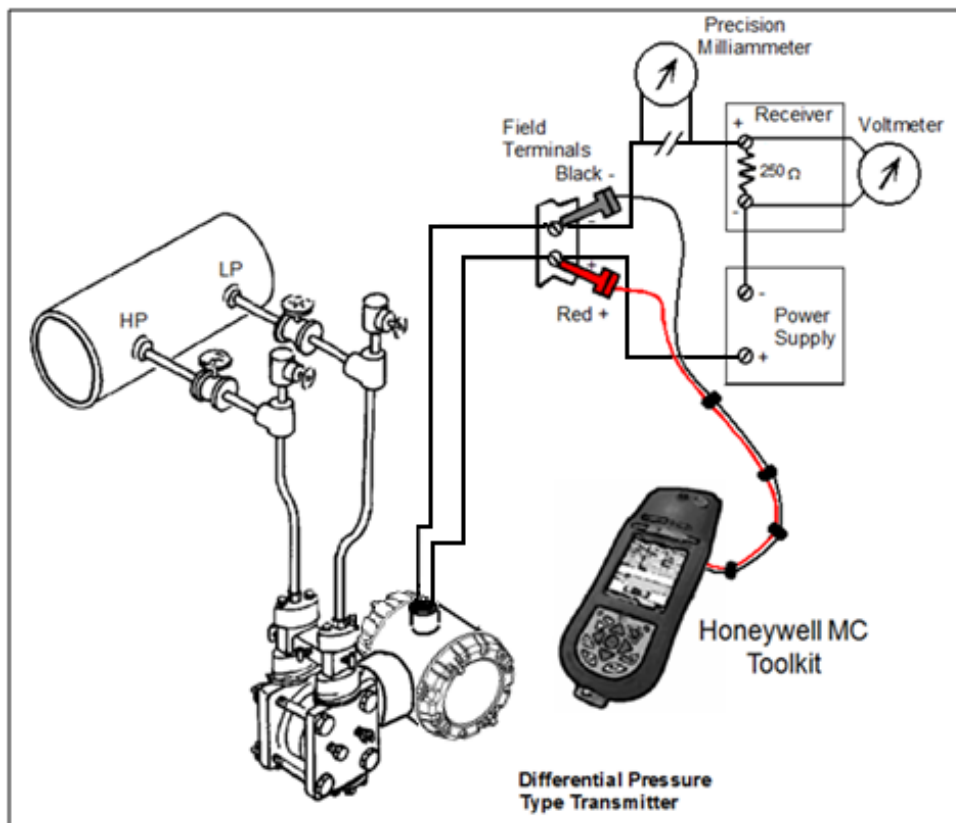

Figure 16 – Current Loop Test Connections
1. Refer to Figure 16 for test connections. Verify the integrity of electrical components in the output current loop.
1. Connect a current meter or voltmeter as shown in Figure 16 to monitor the PV output of the Transmitter.